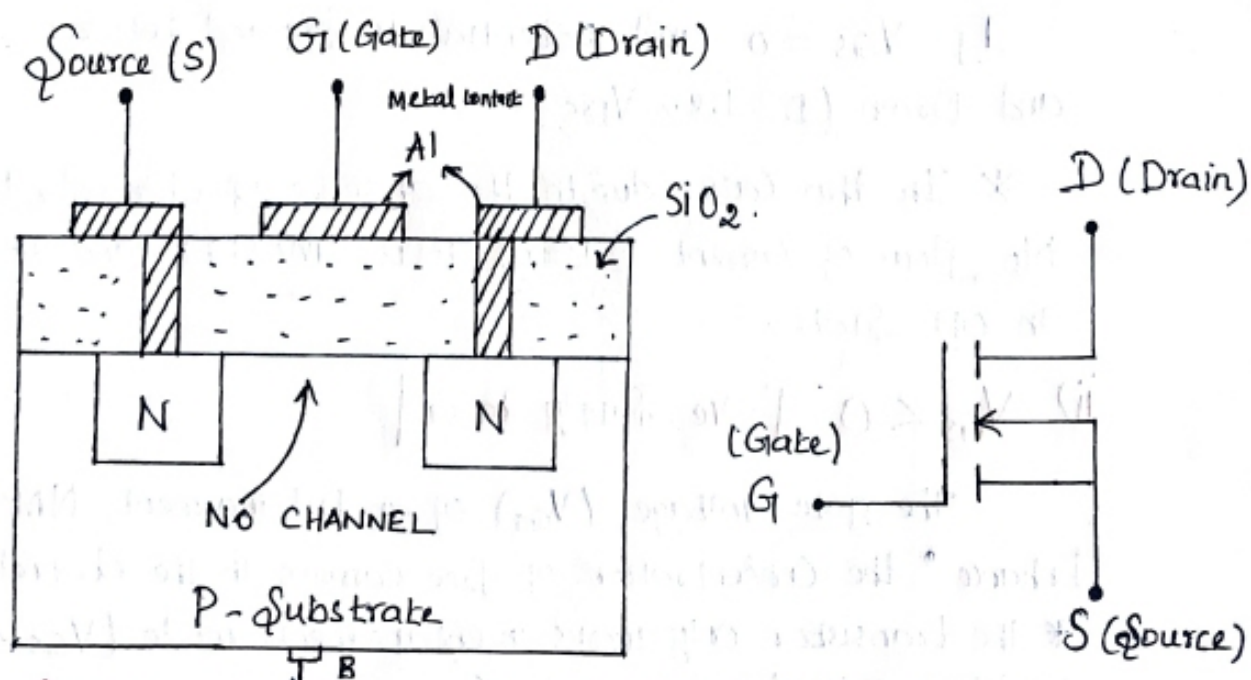

Fig. 1 Structure and Symbol of N-channel E-MOSFET.
* The Construction and the Circuit symbol of N-channel Enhancement MOSFET are shown in fig. 1.